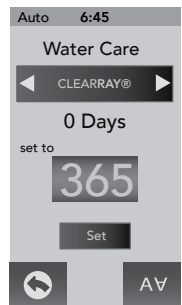

Figure 12.7c
1. From the “Water Care” Menu you can to set the ClearRay UV bulb timer, Figure 12.7c.
A programmable “Water Refresh” reminder can be set to remind you when to drain and refill the spa. Tap  (Figure 12.7c) until you reach the “Water Refresh” tab to enter the Programming Menu.